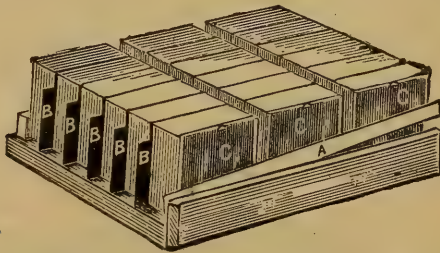
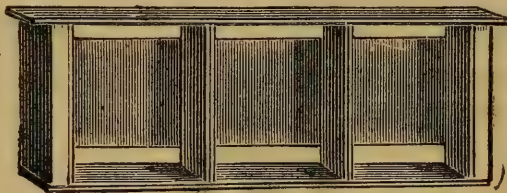

FIG. 14.—*Comb-Honey Rack.*
FIG. 18.—*Case of Prize Boxes for Langstroth Hive.*
The New Langstroth Hive is peculiarly adapted for the production of comb honey—its Honey Rack (Fig. 14) is the best in use, and perfectly adapted to the use of the Prize Boxes. It holds 18 Prize Boxes, with the separators between them, marked B B in the cut. The wedge (A) holds all with a vise-like grasp. The outer boxes are glassed (C C C) as they stand on the hive. By removing the wedge (A) any box may be instantly removed, examined, returned,
This case (Fig. 18) is made of $\frac{1}{4}$ inch lumber, 2 inches wide, and holds three Prize Boxes. Such an arrangement must have a seven-inch story made for it, which may be lifted on and off the hive in one piece. It holds 21 Prize Boxes, and is used with success by many. Fig. 18 shows
Prize Boxes with a tight top-bar (2 inches wide) are used in the Comb-honey Rack, (Fig. 14) ; those used in Cases
(Fig. 18) have the top and bottom bars only $1\frac{3}{4}$ inches wide—the Case being 2 inches in width, prevents any bees from going above it.
The above directions are for those used in Cases. (Fig. 18). Those with the tight top-bar, used in the Comb-honey Rack, (Fig. 14) have to be fastened with the tin points at the bottom, as before described, and at the top by having a tin point inserted outside of the glass.